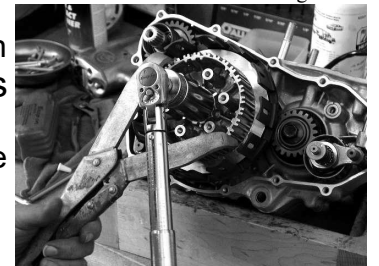

Figure 9
- Re-install the inner hub and tighten the main shaft nut to manufacturers specifications (Figure 9)